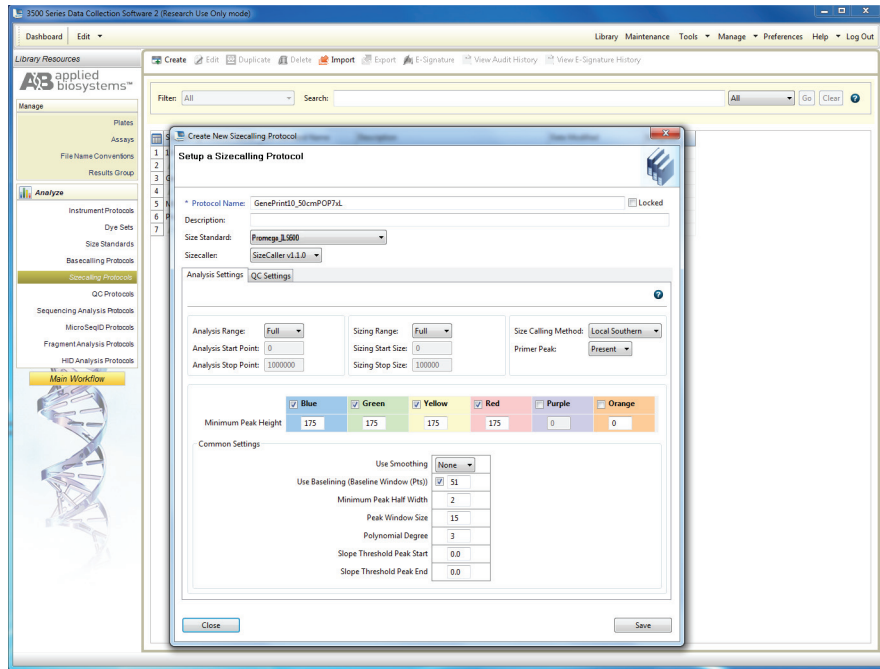

Figure 8. The Setup a Sizecalling Protocol window.
- To create a new Sizecalling Protocol, navigate to the Library. Select “Sizecalling Protocols”, then select “Create”. Assign a descriptive protocol name (Figure 8). Select the size standard created in Step 3. Leave all other settings as the default settings. Select “Save” then “Close”.